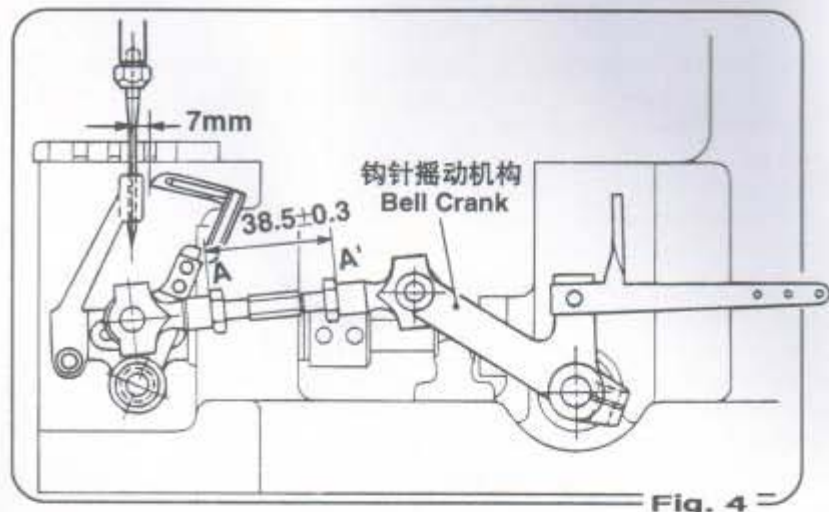
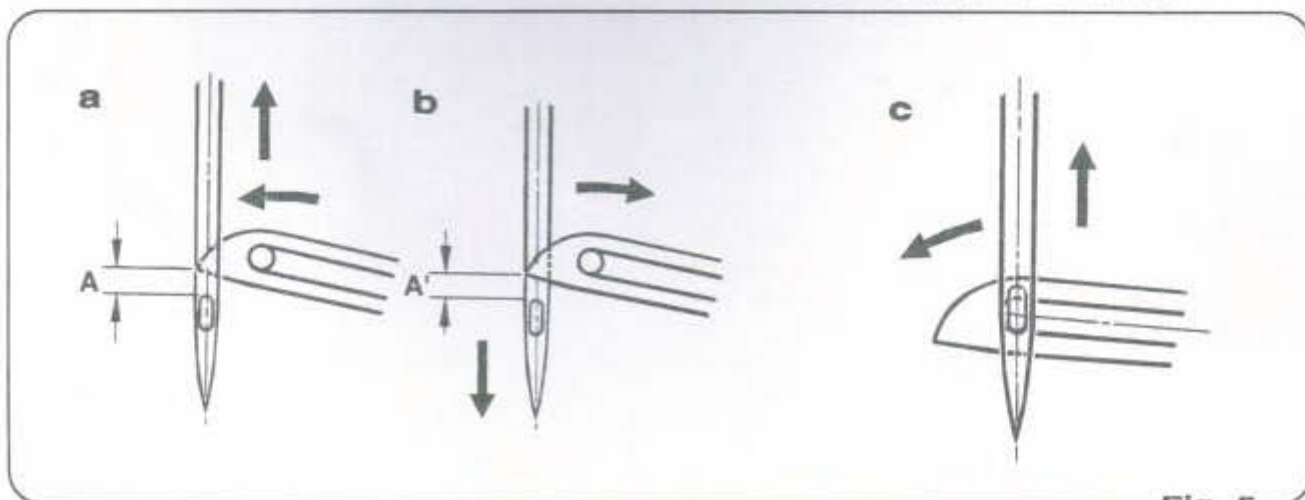
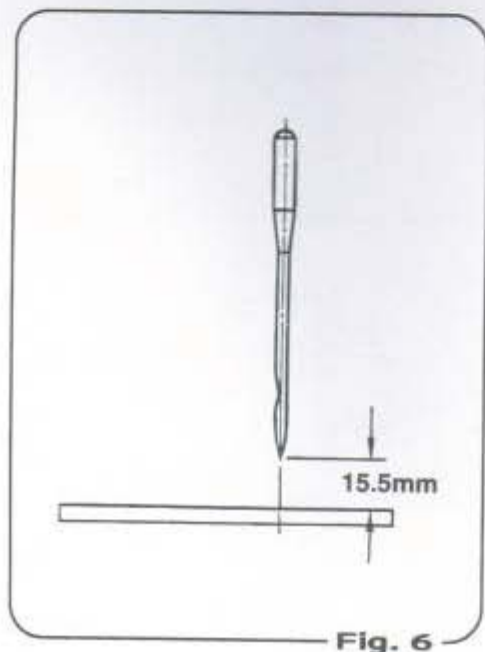

Fig. 4
Fig. 5
Fig. 6
Presser foot pressure must be adjusted according to the material of bag and thickness. Check the reverse side of seams. The pressure is too strong if seams show a sign of scratches by feed dog teeth, or the actual stitch length is shorter than the preset feed rate of feed dog teeth. In this case, unscrew plate spring adjust screw (102171), Figure 4, after loosening nut (5/16N24301). Be sure to tighten the nut after the adjustment. If the pressure is too weak, seams do not form a straight line, or the stitch length is irregular. In this case, increase the pressure by screwing the plate spring adjust screw. Decrease the pressure when closing jute and other heavy bag material, and increase it when closing PP woven cloth and other light bag material. Your machine is adjusted for 3-ply kraft paper bags at the factory.
- a) Turn the pulley in the forward direction and adjust the bell crank so that the end of the looper is 7mm away from the needle center when the needle is in the most retracted position, as shown in (Fig.4). The distance between the nut (outside) of Looper Connecting Rod must be  $38.5 \pm 0.3$ mm. (Fig.4)
Needle 5 and looper 1 movements are correctly timed if distance (A and A' of Fig.4) between Looper point and Needle hole when Looper points gets in line with left-side edge of Needle 5 is the same as Looper 1 passes Needle in forward and backward movements.  $A=A' \pm 0.3$ mm is allowable. Adjust by lightly tapping the looper Drive Lever. Looper eyelet should overlap with lower part of oval hole of Needle, as shown in (Fig.5-c) as looper goes forward. Adjustment can also be done by loosening the set screw of the needle bar connecting stud and adjusting the height of the needle bar so that the end of the needle is 15.5mm from the upper surface of the throat plate as shown in (Fig.6).
预先保持距离(A-A'), 相隔 $38.5\text{mm} \pm 0.3\text{mm}$ 以内, 而如图所示(图4)装球连杆(#063072AA), 钩针最后退时, 针中心离钩针距离应相隔7mm。调整钩针摇动机构后, 请无忘拧紧, 注意钩针摇动曲轴不要松动。
由于调整钩针尖头应准缝针孔中心线上, 请将钩针前进或后退而调整位置, 钩针和缝针交叉时候, 从钩针尖头到缝针穴的距离, 如图所示(图5-a/b), 须要确保一定的(A=A')尺寸, 尚有 $A=A' \pm 0.3\text{mm}$ 容许限度。
- A=A' 尺寸确认后(图5-C), 为了钩针穴下面和针穴下面要合在一起, 请将针棒抱合(#032171)放松螺钉而调整针棒高度。
- 预先如图所示(图6), 针上升到最高位置时, 针至针板距是15.5mm, 将针棒高在那地点定下, 以后调整工作容易进行。